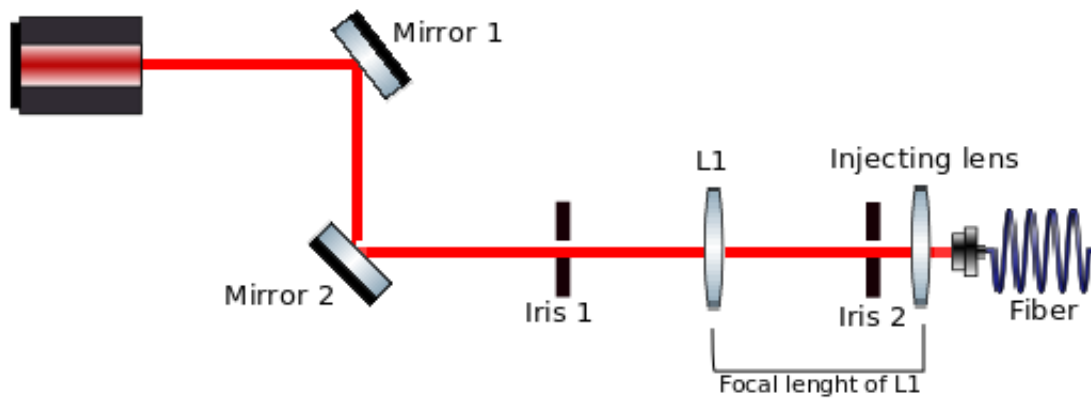

Figure 2 : Setup with L1.
7. Add the L1 in the optical axis. This lens should be at the same distance than its focal length from the injecting lens. (Figure 2)